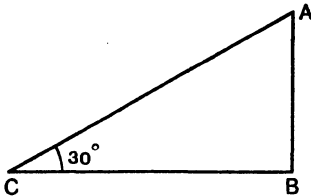

FIG. 99. $\text{COSINE } 30^\circ = \frac{CB}{CA}$
I. Introduction.—Cosine may be introduced by further study of similar, right-angled, triangles, Fig. 99. As a rule, little